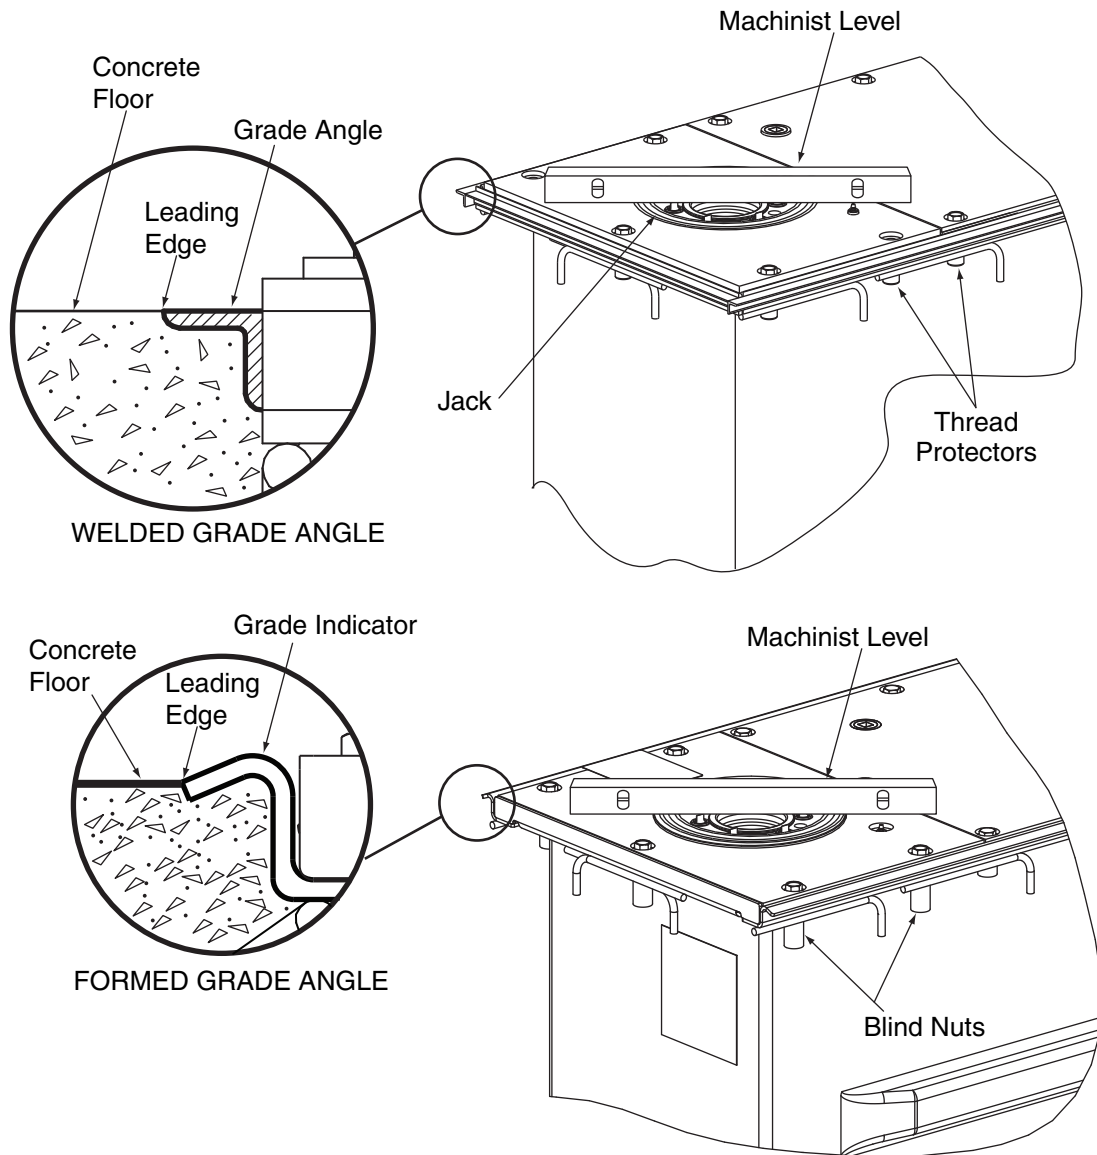

Fig. 5
**IMPORTANT** Owner: Your Installer Is Responsible For The Concrete Floor Being Finished To The Leading Edge Of The Grade Angle (1/4" Below Top Of Lift), NOT To The Top Of The Lift, Fig. 5. Failure To Comply Will Void Warranty.
**NOTE:** Make sure rubber thread protectors are still in place on all nuts welded to the concrete frame, including where the hardware was just added, Fig. 5. Note: that rubber thread protectors are not required if concrete frame has 1" blind nuts.
E. Plumb and level by placing machinist level on top of jack. Do Not plumb or level off unit frame. See Fig 5.
**IMPORTANT** Make sure thread protectors (supplied by Rotary) are on the underneath side of the concrete frame on all the bolts in the guide barrel and cover, Fig. 5. Note that thread protectors are not required if concrete frame has 1" diameter blind nuts.
C. After lift is backfilled, make final elevation and plumb checks, Fig. 5.